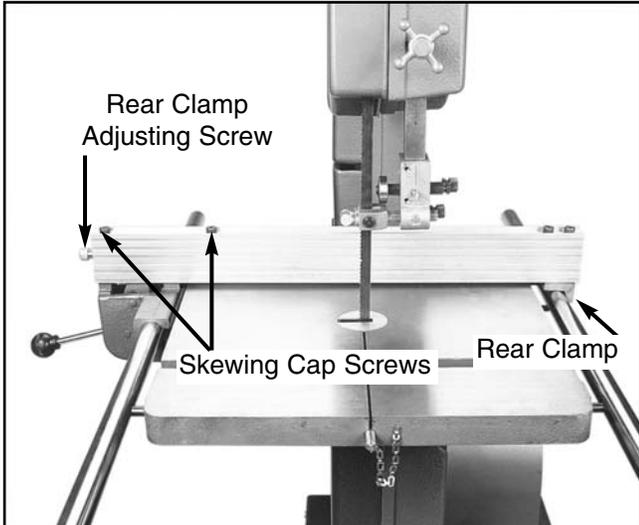

Figure 27. Fence controls.
1. Back out the rear clamp adjusting screw several turns and put the locking lever in the locked position as shown in **Figure 27**.
- Loosen the two skewing cap screws on top of the fence. **Figure 27.**